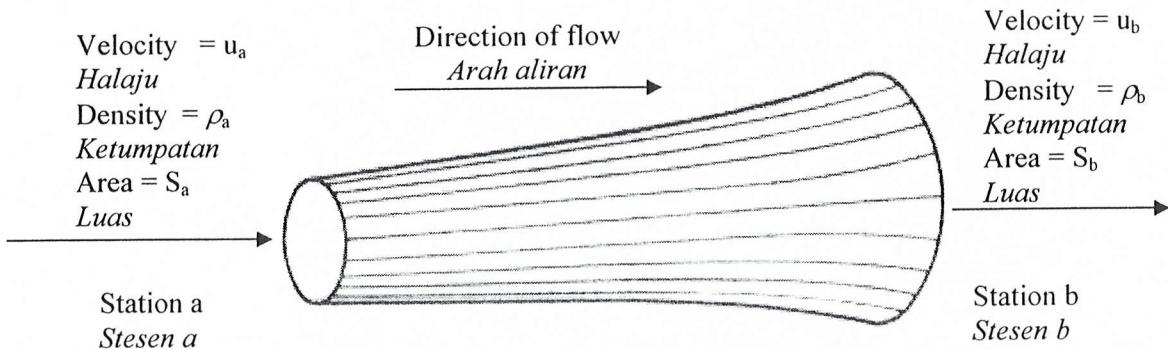

Figure Q.4.
4. Figure Q. 4. shows an imagination of collective streamlines flow in tubular shape which forms a stream tube flowing from station a to station b.